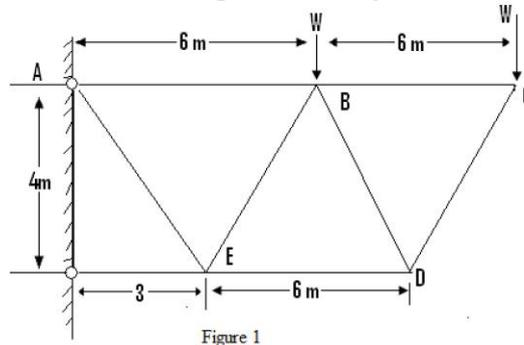

Figure 1
- cantilever truss is loaded as shown in Figure 1. Analyze the truss by method of sections.